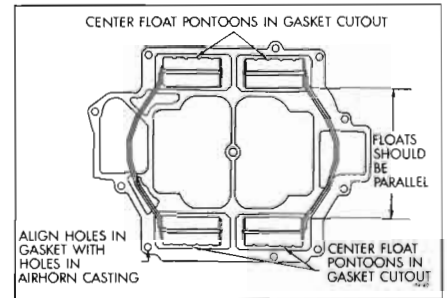

Figure 64-40—Float Alignment
19. Align pontoons to make sure they do not rub side of carburetor bowl. They are aligned correctly when they are parallel and centered in the gasket cut-outs. See Figure 64-40. Bend float arms to align. Do not attempt to bend pontoons at float arm attaching point.